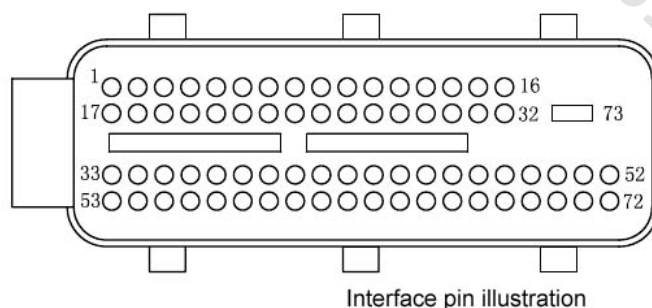

Fig. 1-10
**(1) Function:** The ECU is the key part of the electronic control system of the engine. The sensors provide various signals to the ECU, and the ECU calculates the signals and sends orders to the actuators like fuel injector, ignition coil etc to control the engine.
**(2) Structure:** Made by a shielded housing and printed circuit board, many electronic control units integrated on the board to control the electronic injection system.
**(3) Installation:** Fixed under the instrument panel sundries box with bolt, the double interfaces ECU is adopted.
**(4) LF481Q3 engine controller pin** (see Table 1-1, Fig. 1-10)